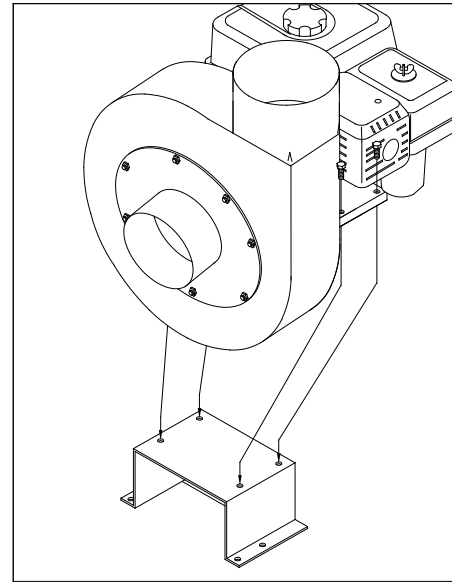

Fig. 6
13. Bolt Engine (15) to Engine Mount Plate (7) as pictured in **Fig. 6** using 5/16 x 1 1/4" HHC & lock nuts provided.